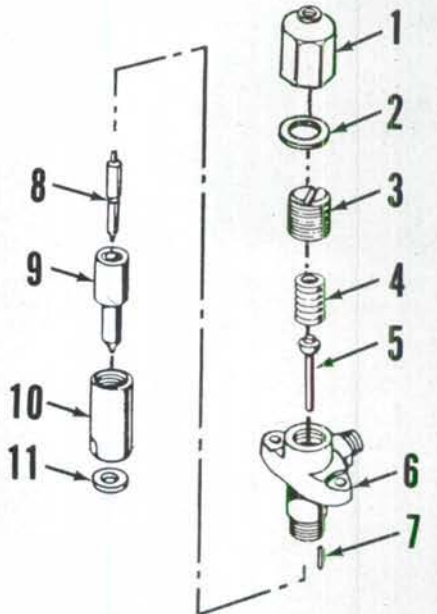

Fig. 90—Exploded view of typical C.A.V. injector nozzle and holder assembly.
If opening pressure is not as specified, remove the injector cap nut (1—Fig. 90) and turn adjusting screw (3) as required to obtain recommended pressure.
Wipe all dirt and loose carbon from exterior of nozzle and holder assembly. It is recommended that injectors be soaked in a suitable carbon cleaning solution for several hours, or overnight if possible, prior to disassembly; otherwise, nozzle valve body (9—Fig. 90) may turn with nozzle nut (10) shearing the locating dowel pins (7).
All polished surfaces should be relatively bright without scratches or dull patches. Nozzle valve (8—Fig. 90) must slide freely in valve body (9). If valve sticks, reclean or renew valve assembly as necessary.